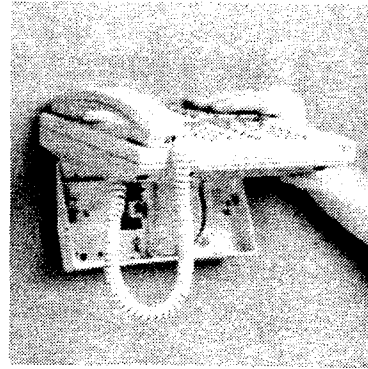

Figure 6.6 - Mount telephone
6. Mount the telephone on the wall base. Route the cord through the cord guide as in Figure 6.6.